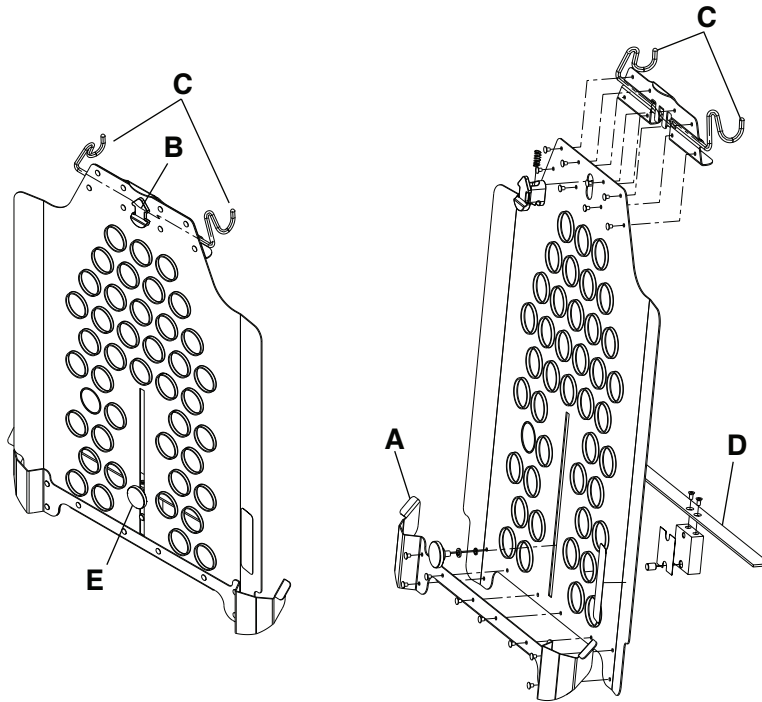

Figure 28 – X-ray cassette holder
3. Insert the lower retainer guides (A) under the Fowler backrest weldment bar (Figure 28).